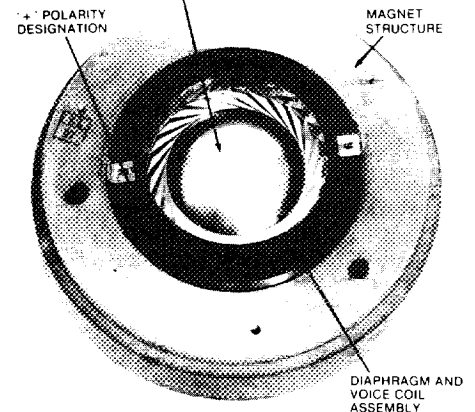

Figure 3. Diaphragm and Voice Coil Assembly
6. Carefully work diaphragm and voice coil assembly free. Remove assembly (see Figure 3).